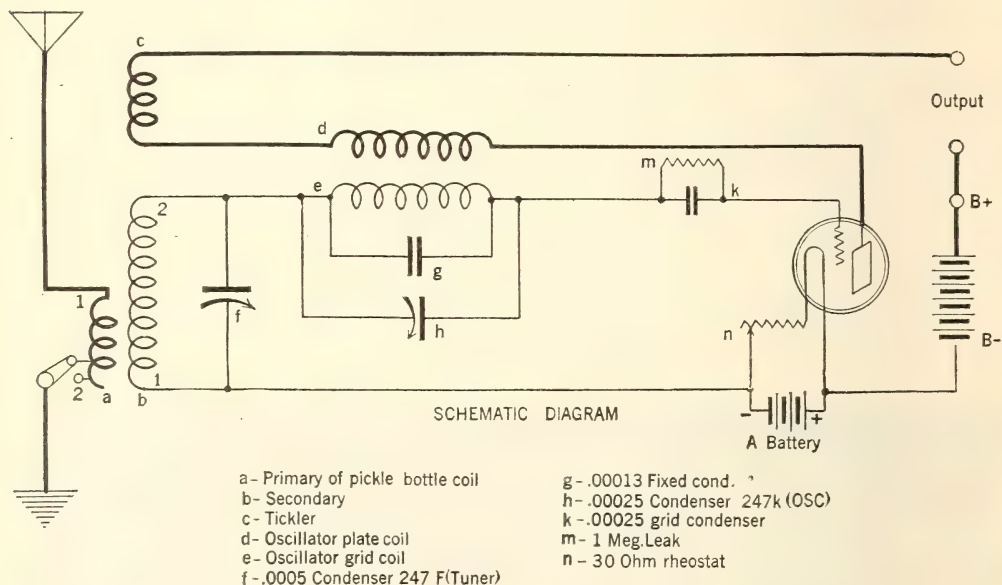
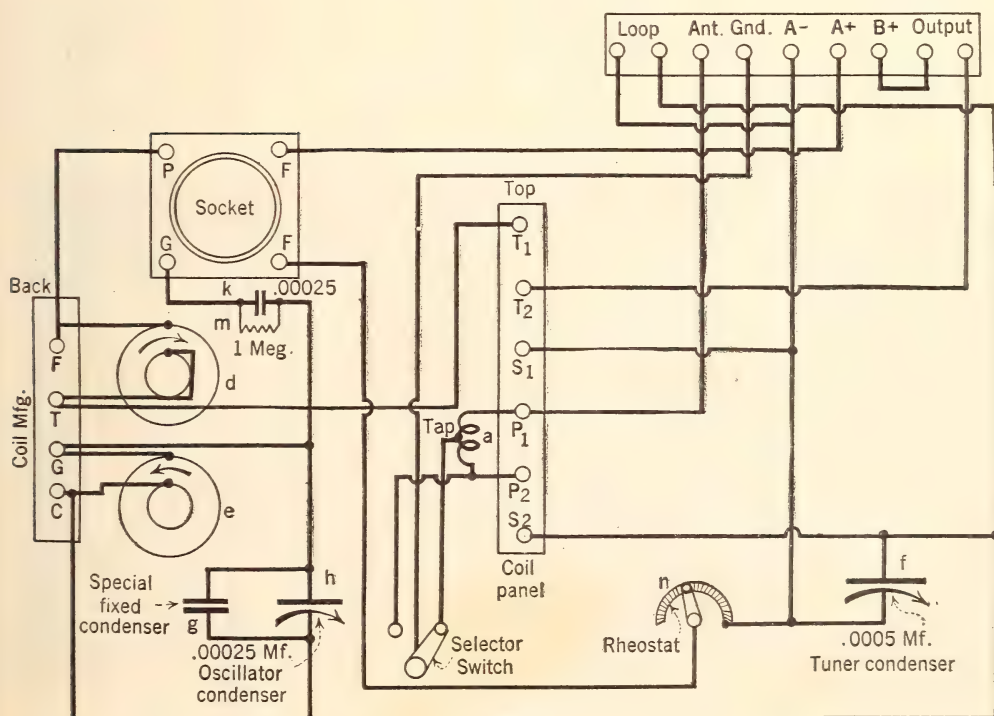

FIG. 4
FIG. 6
Fig. 4 shows the schematic diagram of the circuit and Fig. 6 shows the connection hookup. In Fig. 6, coils A, B, and C are the
- 9 1 Formica Coupling Member for Item 7 (Fig. 6)